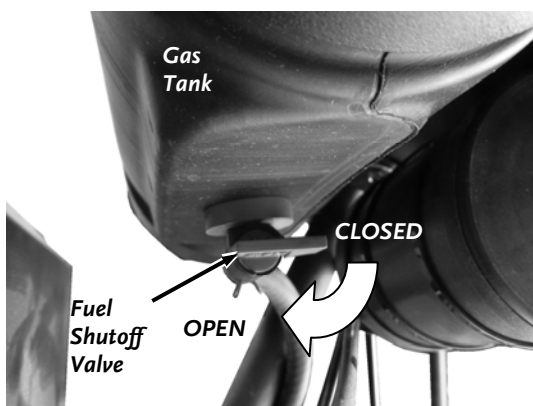

Figure 15
3. Ensure that the Fuel Shut-Off Valve located under the Fuel Tank is open (**Figure 15**).